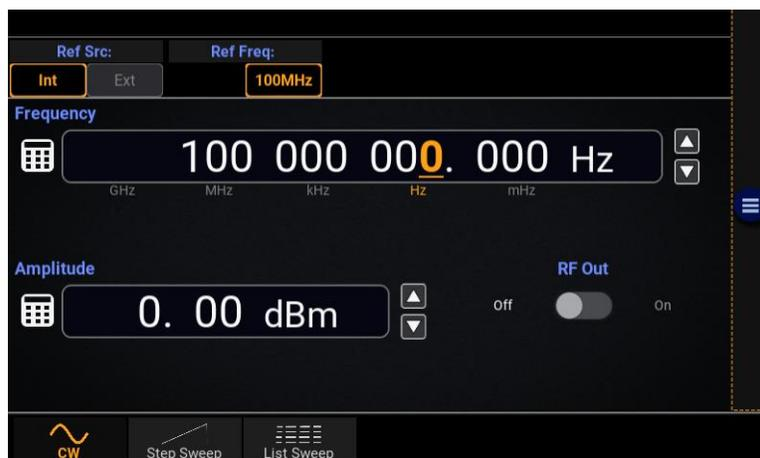

Figure 2-2. Typical Power-On Display
5. A bootup screen should appear that shows the boot status. After a self-check, the instrument will execute the application program. A screen like Figure 2-2 should be displayed.